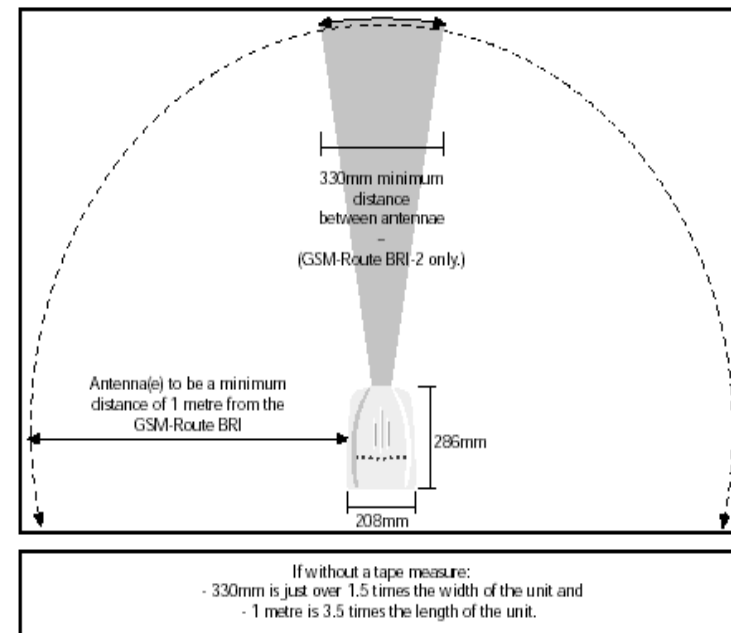

Figure 1
3. Connect Antennae (see figure 1 page 6)